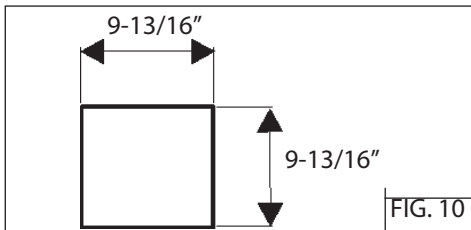
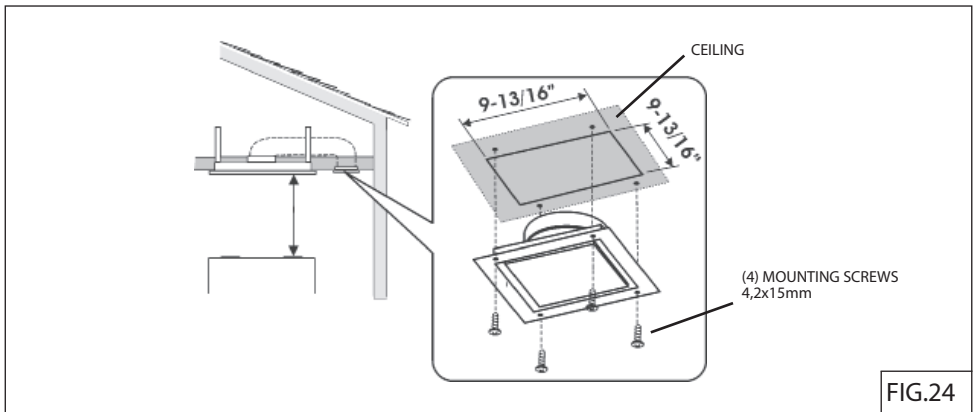

FIG. 10
FIG.24
Make a cut-out in the ceiling for the air return vent. See Fig. 10 below and Fig. 24.
Fix the air return vent to the ceiling, by means (4) 4,2x15 mm screws. See Fig.24.